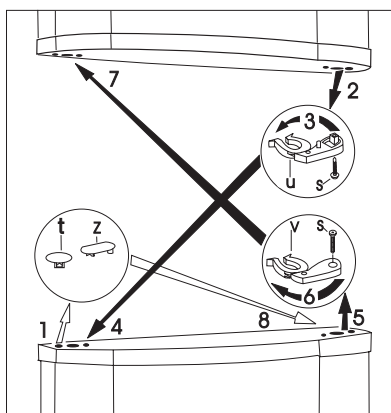

Fig.4
- Lift out the insert for the lower covering grid (e) using a screw driver (Fig. 4).
- Unscrew the bottom door retaining pin for the freezer door (h, f) and then screw in on the other side. Don't forget the spacer (h) (Fig. 4).
- Place the freezer door on the lower door retaining pin (f) (Fig. 4).